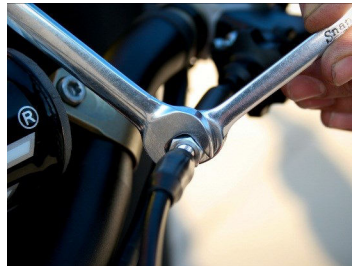

Figure 13
- Adjust out most clutch cable free play using the adjuster in the clutch cable housing and tighten cable housing jam nut. (see figure 13)